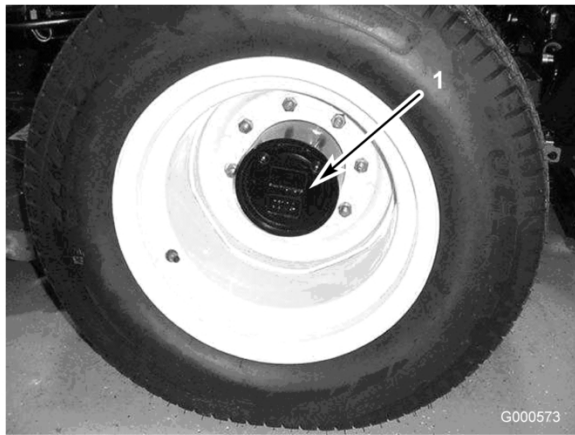

Figure 42
1. With the machine on a level surface, position the wheel so that the check/drain plug (Figure 42) is at either the 2 or 10 o'clock position.
2. Remove the plug on the planetary (Figure 42). Oil should be at the bottom of the check plug hole.